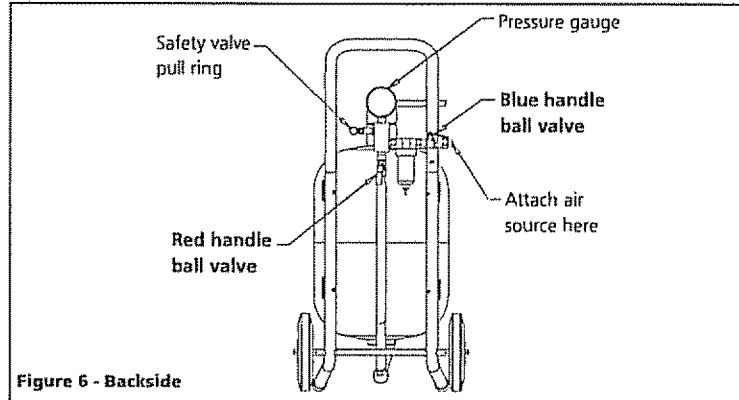

Figure 6 - Backside
5. Open the red handle ball valve on the backside of the tank. This will allow pressurized air to enter the material hose and blast gun (see Figure 6).